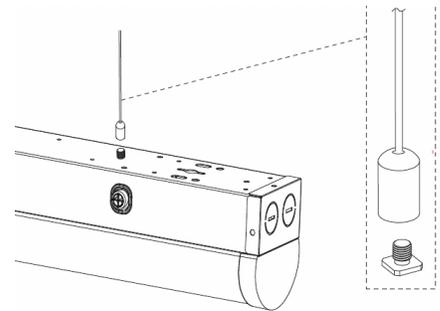

Fig. 9
3. Use M5 square screw and M5 fixed head to secure fixture (Fig. 9).